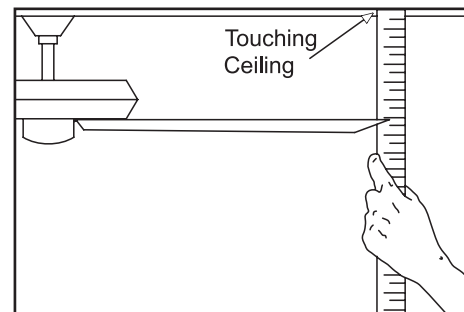

Figure 10
2. Most fan wobble problems are caused when blade levels are unequal. Check this level by selecting a point on the ceiling above the tip of one of the blades. Measure from a point on the center of each blade to the point on the ceiling. Measure this distance as shown in Figure 10. Rotate the fan until the next blade is positioned for measurement. Repeat for each blade. Measurement deviations should be within $1/8''$. Run the fan for 10 minutes. If the fan continues to wobble please contact Customer Service and a balancing kit will be sent to you at no charge.